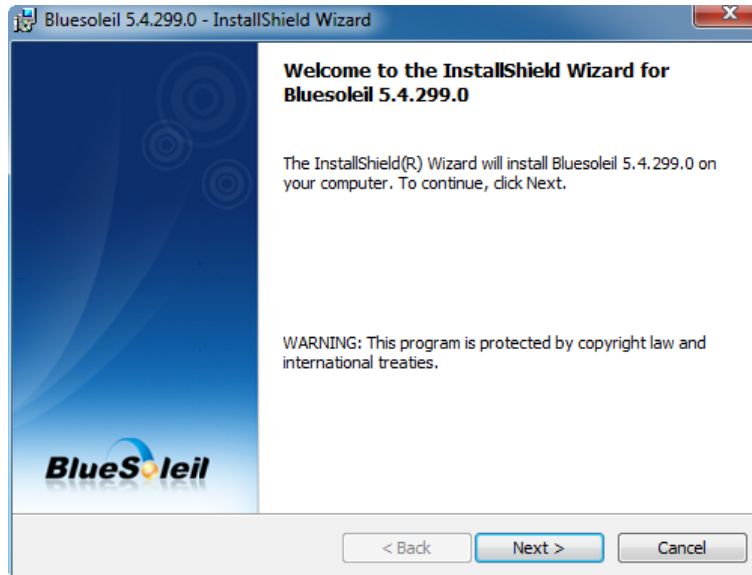

Figure 5-40: Welcome Screen
Step 4: The **Welcome Screen** appears (**Figure 5-40**).